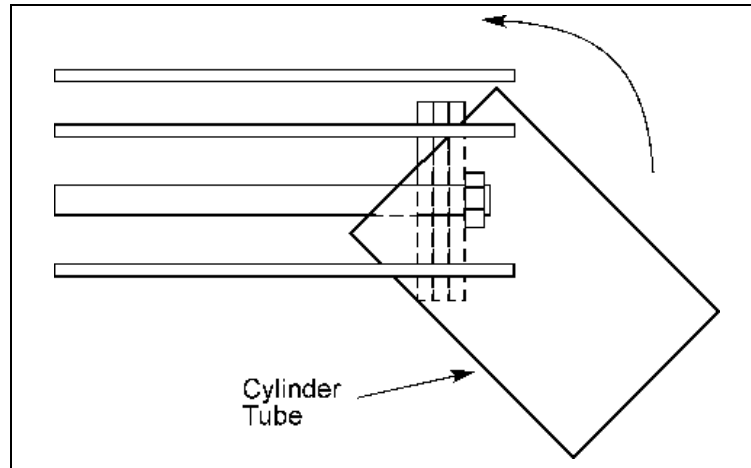

Figure 3—Installing Cylinder Tube
13. Start the tube at a 45-degree angle and rotate the tube onto the piston. See Figure 3.